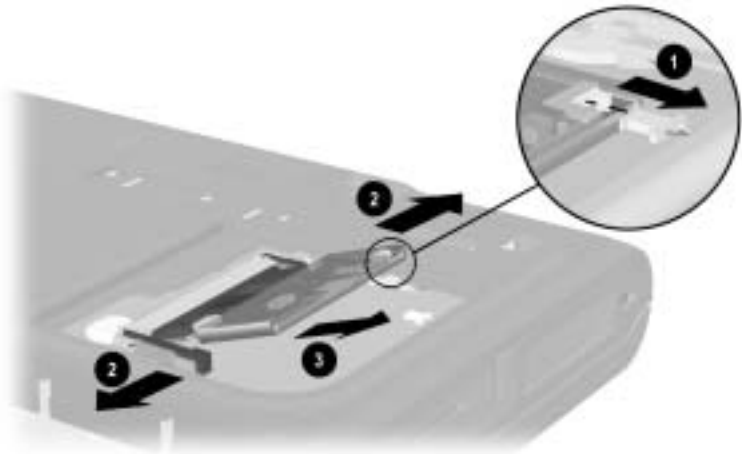

Figure 5-13. Removing a Mini PCI Communications Board
7. Disconnect the modem cable from the mini PCI communications board ❶ (Figure 5-13).
8. Spread the retaining tabs ❷ on each side of the mini PCI communications board. The board releases and rests at an angle.
9. Remove the board by pulling it away from the socket at an angle ❸.